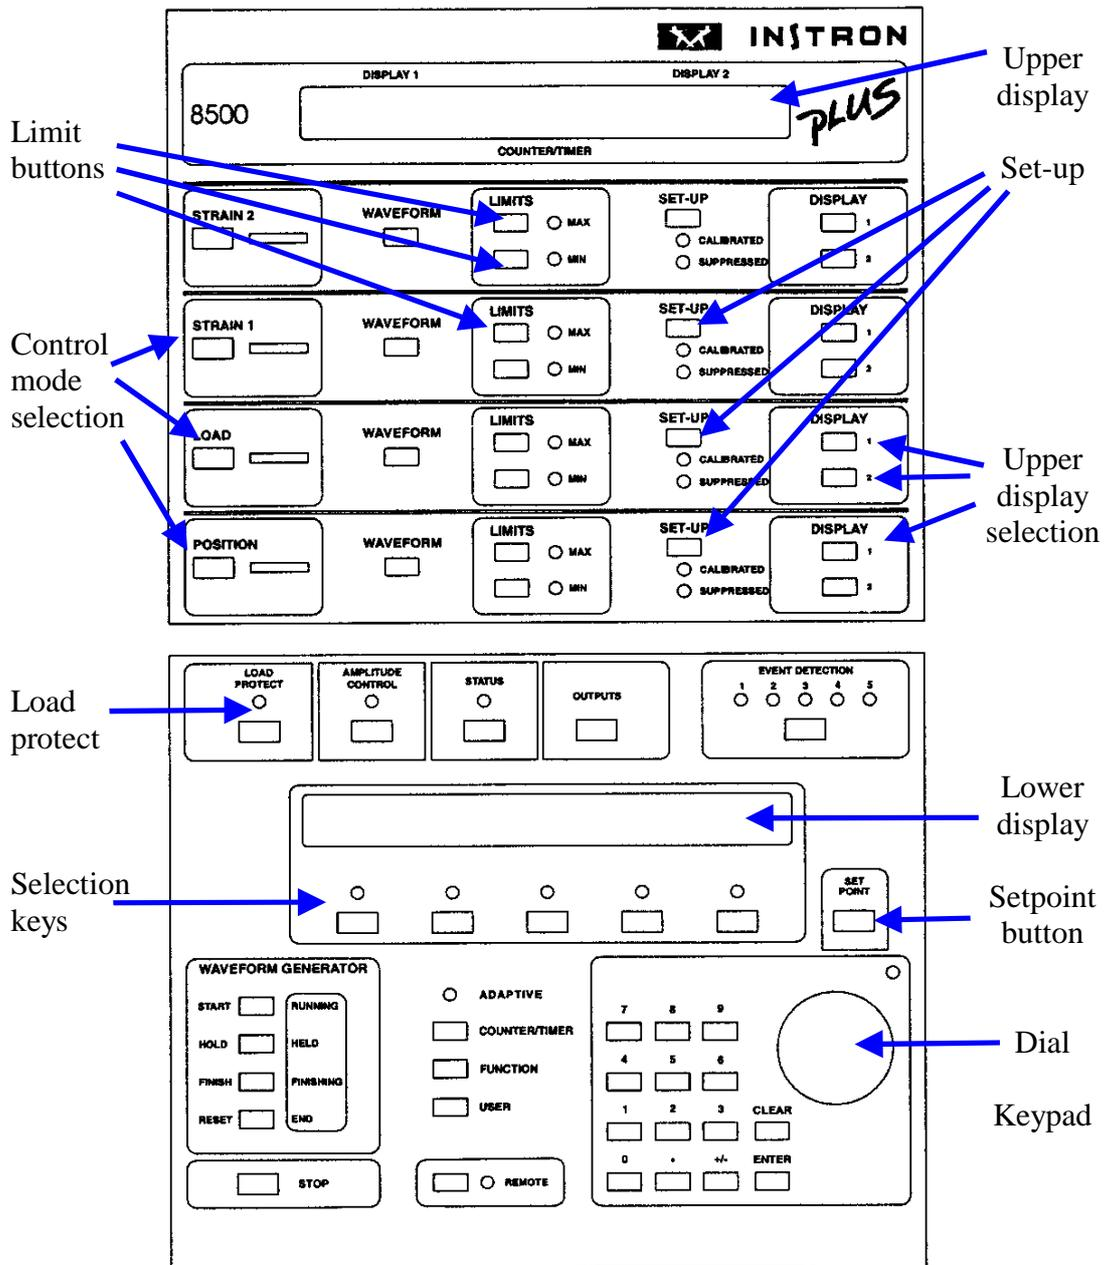

Figure 6: Schematic of the stress rig front panel.
Local operation is controlled using the front panel. A schematic of the front panel is shown in Figure 6. There are 2 LCD displays: the upper display provides information such as the present stress or actuator position. The lower display supplies options for you to select. You choose an option by pressing one of the selection keys below the display.
- The load cell will need to be automatically calibrated. Ensure the cell is not under any load, then press the set-up button (see Figure 6) corresponding to the load channel. Various menu options will be shown on the lower display. Navigate through the menus by selecting Cal→Cal→Auto→Go. The auto calibration will be performed, and the green LED below the set-up button will stop flashing.
- Hit the corresponding control mode selection button (indicated on Figure 6).
**Tip:** it is a good idea to turn on “load protect” when inserting a specimen. This ensures that only very small loads may be applied. Firstly, ensure that position control is selected. Then press the load protect button, as shown on Figure 6, and select On/Off from the lower display, to toggle on and off. When on, a red LED is lit next to the load protect button.
- Input this value (in mm2) into the front panel by pressing the setup button for the load channel (see Figure 6) and navigating through the menus, selecting cal → cal → mm2 → mm2, and then inputting your value via the keypad.
- press the appropriate limit button (see Figure 6), e.g. max load or min position.